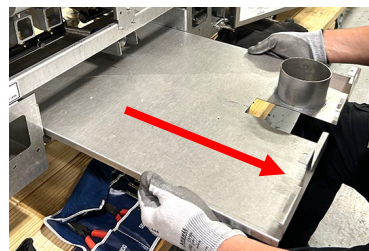

Figure 3
4. Pull forward to remove the filter pan lid (see Figure 3).